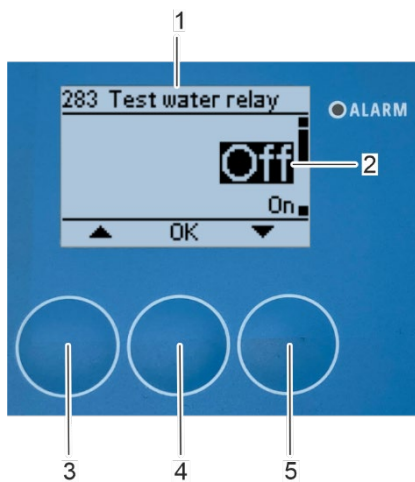

Fig. 152: Switch off water relay
⇒ The "283 Test water relay" submenu (Fig. 152/1) appears on the display.
6. Select "Off" (Fig. 152/2) with the arrow keys [up] (Fig. 152/3) and [down] (Fig. 67/5).
7. Confirm the selection with [OK] (Fig. 152/4).